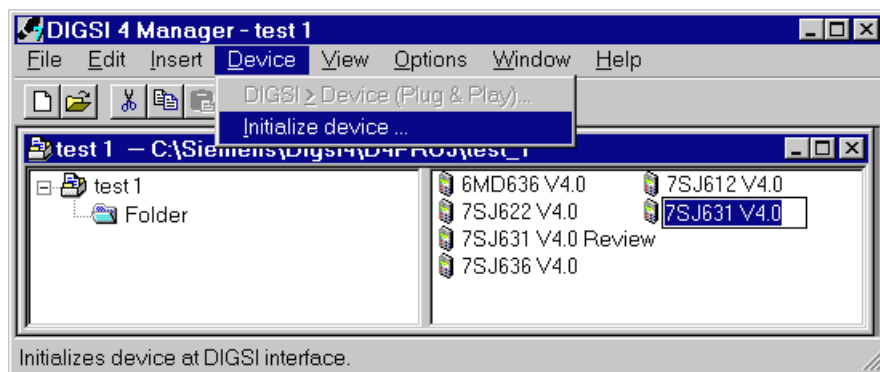

Figure 9-2 Initializing device via DIGSI® 4
- ☐ Fuse in the power supply has not blown. The location of the fuse is shown in Figure 9-2. If the fuse needs to be replaced, see Sub-section 9.5.2.
- ☐ Select **Initialize device** in the menu **Device** (Figure 9-2).
- ☐ Remove the defective fuse. Figure 9-2 illustrates the fuse. The location is subject to change, but there is only one fuse on the CPU board.